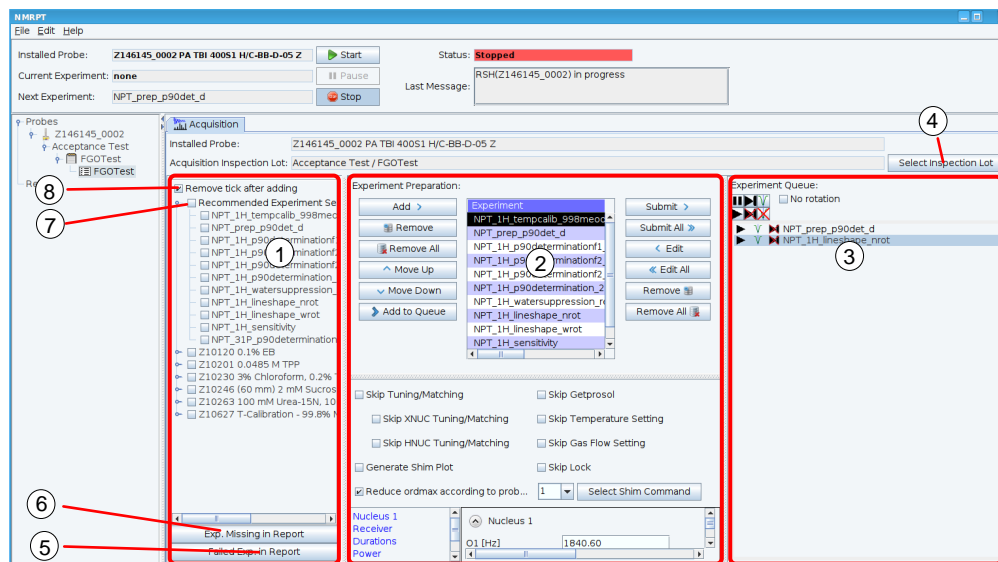

Figure 5-64: Acquisition tab – overview
The Acquisition tab (Figure 5-64) is divided into three main areas:
### Select Inspection Lot (Figure 5-64 (4))
On the **Acquisition** tab (Figure 5-64) click **Select Inspection Lot** (4). The Select Inspection Lot dialog opens.
## Library (Figure 5-64 (1))
- (1) **Add**
Select experiments in Library (Figure 5-64 (1)) and click **Add** (1) to move these experiments to Experiment Preparation table (7).
- (2) **Remove**
- (4) **Move Up**
Select an experiment in Experiment Preparation table (7) and click **Move Up** (4) to move the experiment up in the table. A higher position in the table means an earlier acquisition in the Experiment Queue (Figure 5-64 (3)).
- (5) **Move Down**
Select an experiment in Experiment Preparation table (7) and click **Move Down** (5) to move the experiment down in the table. A lower position in the table means a later acquisition in the Experiment Queue (Figure 5-64 (3)).
- (6) **Add to Queue**
Click **Add to Queue** (6) to add selected experiments from Library (Figure 5-64 (1)) directly to the Experiment Queue (Figure 5-64 (3)). This skips the Experiment Preparation step. The measurement order is based on the **Recommended Experiment Sequence** (Figure 5-64 (8)).
- (8) **Submit**
Select experiments in Experiment Preparation table (7) and click **Submit** (8) to move the experiments to Experiment Queue (Figure 5-64 (3)).
- (9) **Submit All**
Click **Submit All** (9) to move all experiments in Preparation table (7) to Experiment Queue (Figure 5-64 (3)).
- (10) **Edit**
Select the experiments to edit in Experiment Queue (Figure 5-64 (3)). Click **Edit** (10) to move the experiments to Experiment Preparation table (7) to change settings or measurement order.
- (11) **Edit All**
Click **Edit All** (11) to move all experiments from Experiment Queue (Figure 5-64 (3)) to Experiment Preparation table (7) to change settings or measurement order.
- (12) **Remove**
Select the experiments to be removed in Experiment Queue (Figure 5-64 (3)). Click **Remove** (12) to remove the experiments from the Queue.
- (13) **Remove All**
Click **Remove All** (13) to remove all experiments from Experiment Queue (Figure 5-64 (3)).
The **Experiment Queue** (Figure 5-64 (3)) shows the sequence of experiments in measurement order. The experiment listed in first line will be executed next. To change the order of the sequence, see Experiment Preparation.
Select experiments in Experiment Queue (Figure 5-64 (3)) and click  to pause the queue before the acquisition of the selected experiments. If a sample change is required, the Experiment Queue is paused after sample change (unlike the sample specific Pause before Change option available from Sample List).
Select experiments in Experiment Queue (Figure 5-64 (3)) and click  to pause the queue before the acquisition of the selected experiments.
Select experiments in Experiment Queue (Figure 5-64 (3)) and click  to skip these experiments when doing the acquisition.
Select experiments in Experiment Queue (Figure 5-64 (3)) and click  to mark these experiments for acquisition.